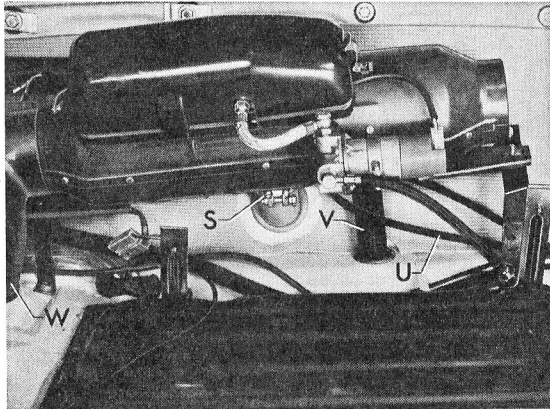

Fig. 14
- 20 – Press warm air elbow into hole until it clicks (Fig. 14).
- 21 – Secure heater to the three brackets after installing hose V for combustion air (must fit tightly). (Fig. 14)
- 22 – Secure exhaust pipe with clamp S (Fig. 14).
- 23 – Push overflow hose on to overflow pipe (see F 4.1/2–1 and Fig. 14).